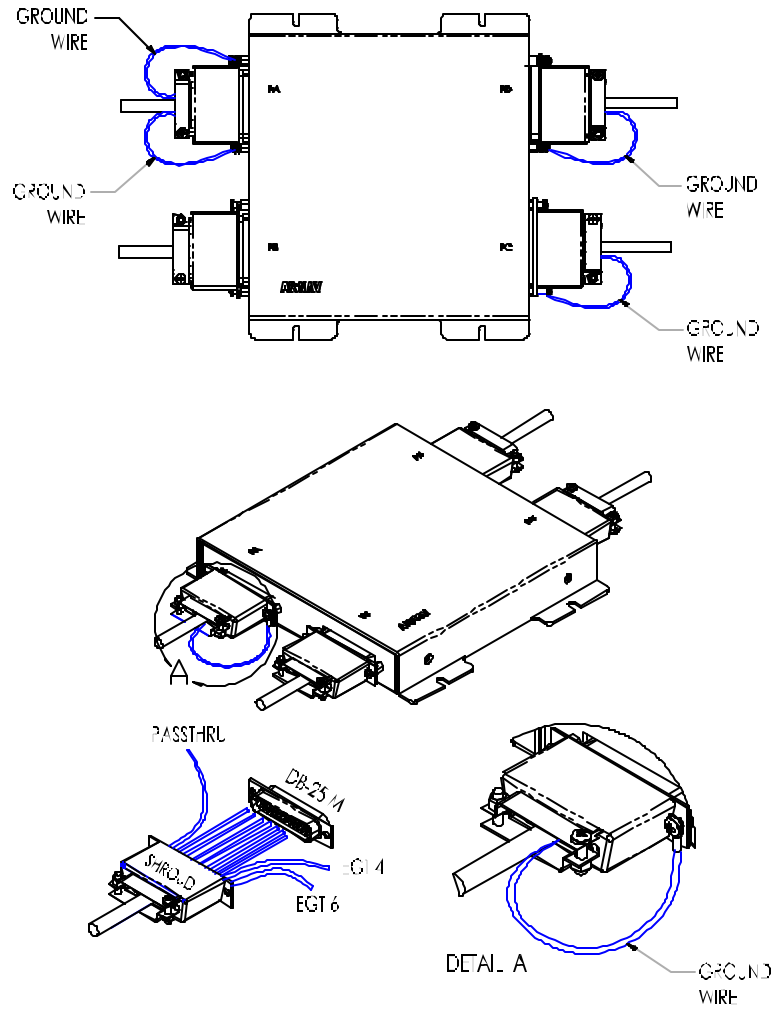

Figure 13-1
1. Secure connector A from harness 611-0600 to EMM-35 PA. Attach the two shield terminators to the EMM-35 with the screws that secure the connector. (Refer to **Figure 13-1**)
2. Secure connector D from harness 611-0600 to EMM-35 PD. Attach the shield terminator to the EMM-35 with one of the screws that secure the connector. (Refer to **Figure 13-1**).
3. Secure connector C from harness 611-0600 to EMM-35 PC. Attach the shield terminator to the EMM-35 with one of the screws that secure the connector. (Refer to **Figure 13-1**).
1. Insert the Yellow wire from the pair labeled EGT4 into connector B Pin-4. (Refer to **Figure 13-1**)
2. Insert the Red wire from the pair labeled EGT4 into connector B Pin-17. (Refer to **Figure 13-1**)
3. Insert the Yellow wire from the pair labeled GUAGE into connector B Pin-6. (Refer to **Figure 13-1**)
4. Insert the Red wire from the pair labeled GUAGE into connector B Pin-19. (Refer to **Figure 13-1**)
7. Secure connector B to EMM-35 PB. (Refer to **Figure 13-1**)
1. Insert the Yellow wire from the pair labeled EGT6 into connector B Pin-6. (Refer to **Figure 13-1**)
2. Insert the Red wire from the pair labeled EGT6 into connector B Pin-19. (Refer to **Figure 13-1**)
3. Insert the Yellow wire from the pair labeled GUAGE into connector B Pin-4. (Refer to **Figure 13-1**)
4. Insert the Red wire from the pair labeled GUAGE into connector B Pin-17. (Refer to **Figure 13-1**)